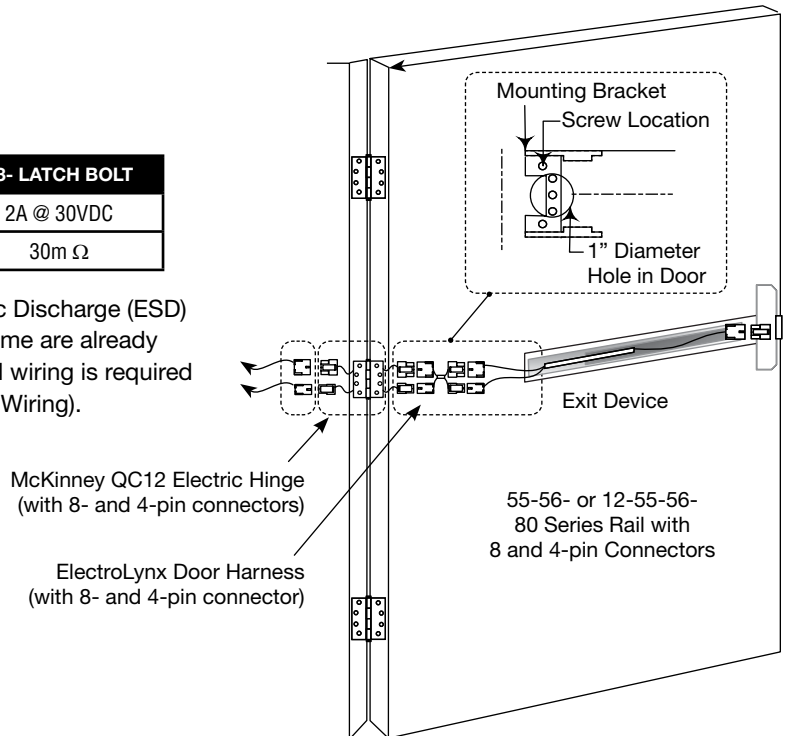

Fig. 11 **TIMER MODE** Installation
2. Connect the ElectroLynx harness in the door (Fig. 11 ElectroLynx **TIMER MODE** Installation):
- a. Remove the shorting jumper from the rail. The shorting jumper is the connector labeled with the orange tag (Fig. 11 ElectroLynx Timer Installation). Do not discard this item.
- b. Plug the 8-pin and 4-pin ElectroLynx connectors from the rail into the 3" ElectroLynx harness or splice into a non-ElectroLynx harness (Fig. 11 **TIMER MODE** Installation).
- c. Feed the 3" harness through the 1" hole in the door and secure the rail to the door using the mounting bracket and two supplied screws (Fig. 11 **TIMER MODE** Installation).